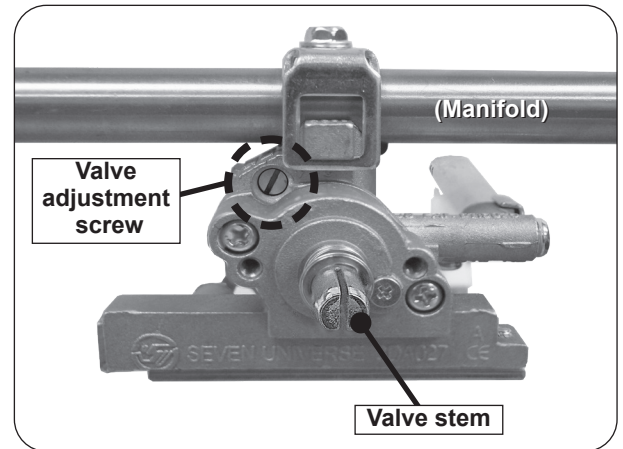

Fig. 43-1 Valve adjustment screw location
5. Locate the FLATHEAD adjustment screw found above the valve stem and below the manifold (see Fig. 43-1).